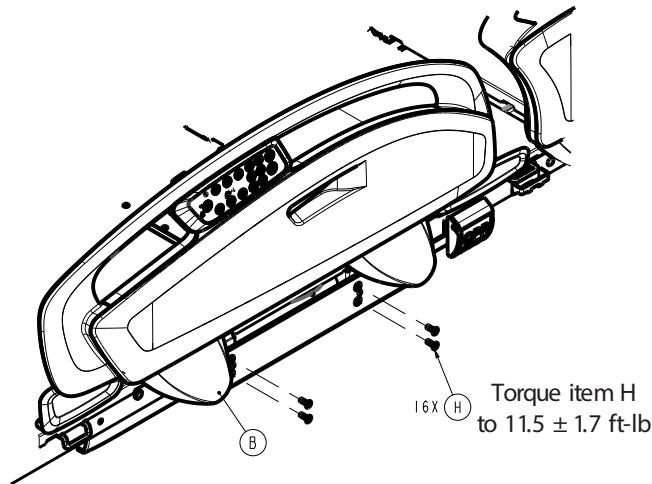

Figure 41 – Removing the assembly
19. Using a T30 Torx driver, loosen the four screws (H) that secure the siderail assembly to the Fowler weldment (Figure 41). Repeat on the opposite side.